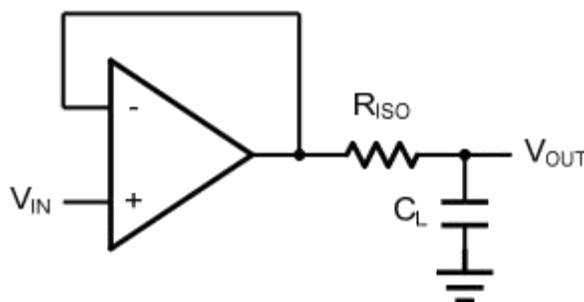
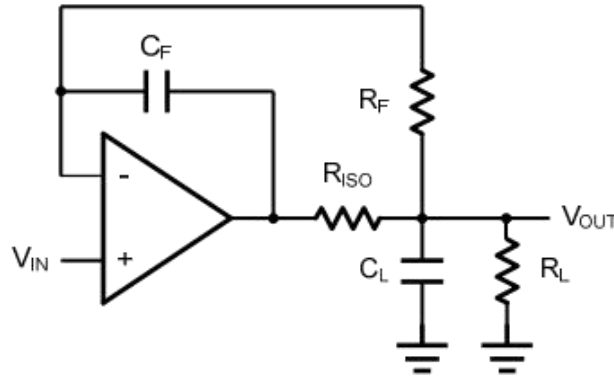

Figure 2. Indirectly Driving a Capacitive Load Using Isolation Resistor
Figure 3. Indirectly Driving a Capacitive Load with DC Accuracy
The HGAx335 family is optimized for bandwidth and speed, not for driving capacitive loads. Output capacitance will create a pole in the amplifier's feedback path, leading to excessive peaking and potential oscillation. If dealing with load capacitance is a requirement of the application, the two strategies to consider are (1) using a small resistor in series with the amplifier's output and the load capacitance and (2) reducing the bandwidth of the amplifier's feedback loop by increasing the overall noise gain. Figure 2. shows a unity gain follower using the series resistor strategy. The resistor isolates the output from the capacitance and, more importantly, creates a zero in the feedback path that compensates for the pole created by the output capacitance.
The circuit in Figure 3 is an improvement to the one in Figure 2. RF provides the DC accuracy by feed-forward the VIN to RL. CF and RISO serve to counteract the loss of phase margin by feeding the high frequency component of the output signal back to the amplifier's inverting input, thereby preserving the phase margin in the overall feedback loop. Capacitive drive can be increased by increasing the value of CF. This in turn will slow down the pulse response.